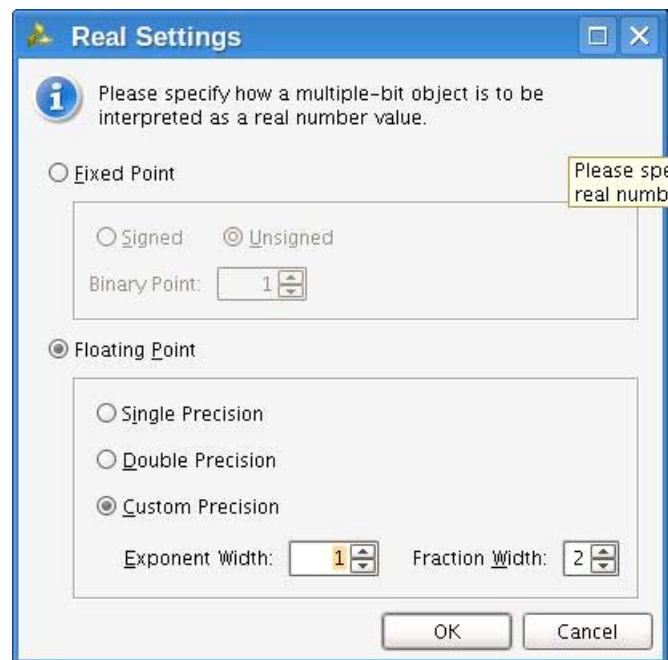

Figure 6-3: Real Settings Dialog Box
- Real radixes cause bus values to be interpreted as fixed point or floating point real numbers, as determined by the settings of the **Real Settings** dialog box, shown in Figure 6-3, page 59.